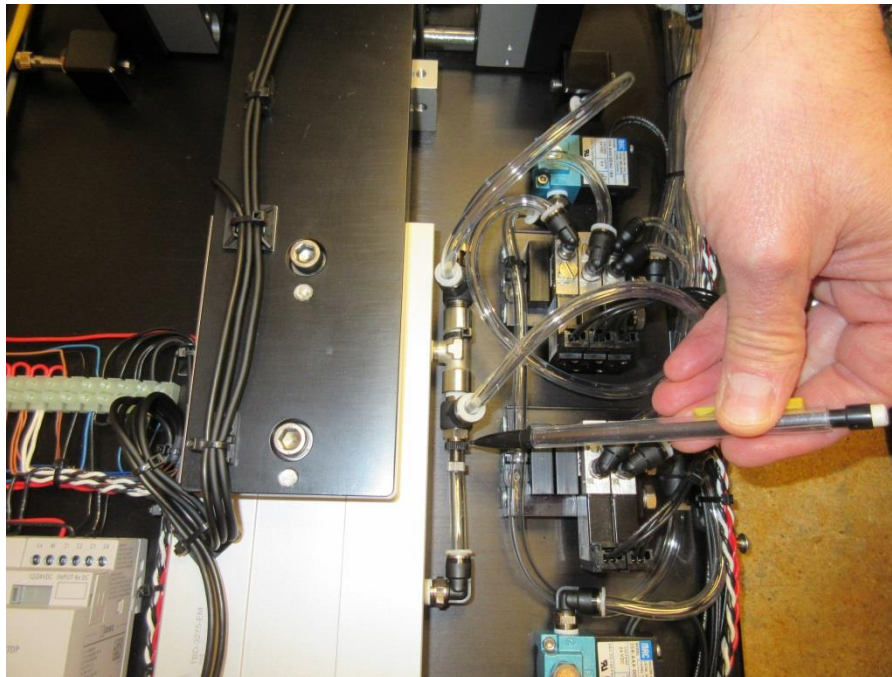

Figure 27 – Location of the flow valve on the thruster cylinder
- Adjust the rear flow valve on the thruster to speed up, or slow down, the forward movement of the thruster. (Figure 27)